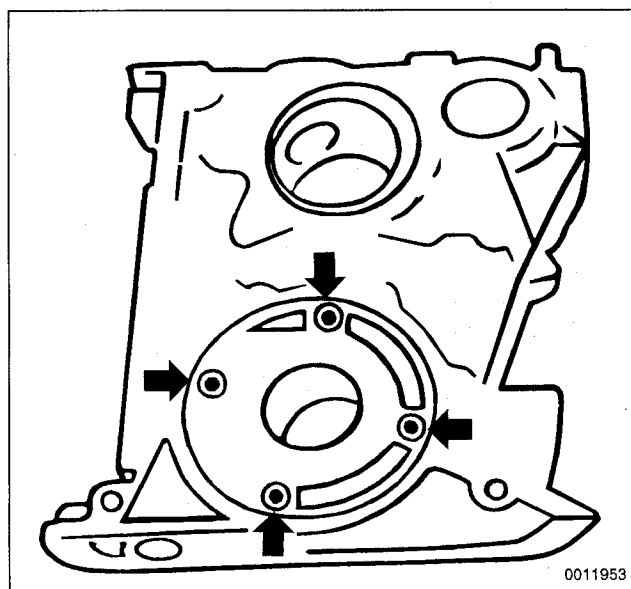

Fig. 14. Oil pump cover mounting bolts (arrows) on M44 engine.
8. Remove cover from oil pump on rear of timing chain case. See Fig. 14. Inspect oil pump gears and oil pump cavity in timing chain case for wear and/or scoring.